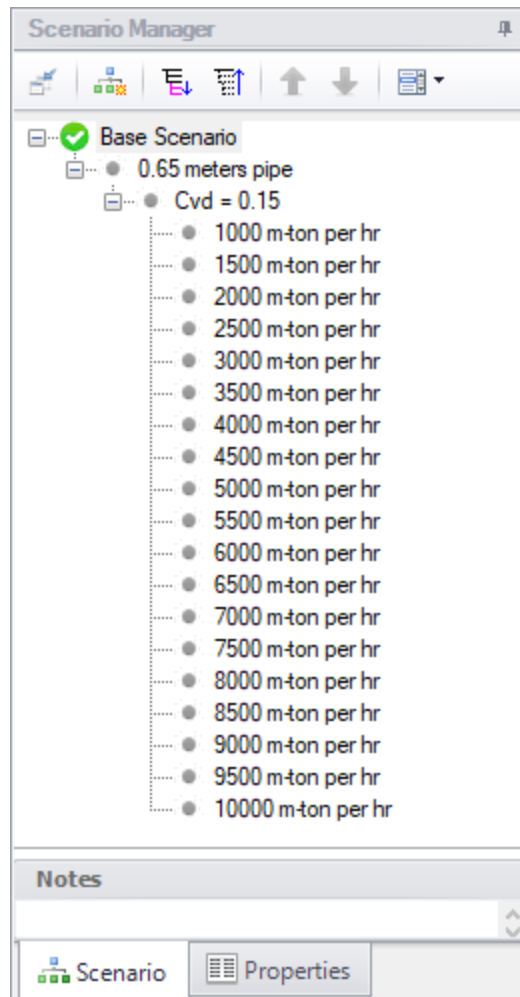

Figure 6: The Scenario Manager on the Quick Access Panel can be used to set up multiple throughput cases for a given solids concentration
3. Under the *Cvd = 0.15* scenario, create scenarios for a range of mass flow rates from 1,000 m-ton per hr to 10,000 m-ton per hr in increments of 500 m-ton per hr, as shown in Figure 6. Load each of these scenarios and set the flow value in each Assigned Flow junction to the corresponding throughput value for each scenario.